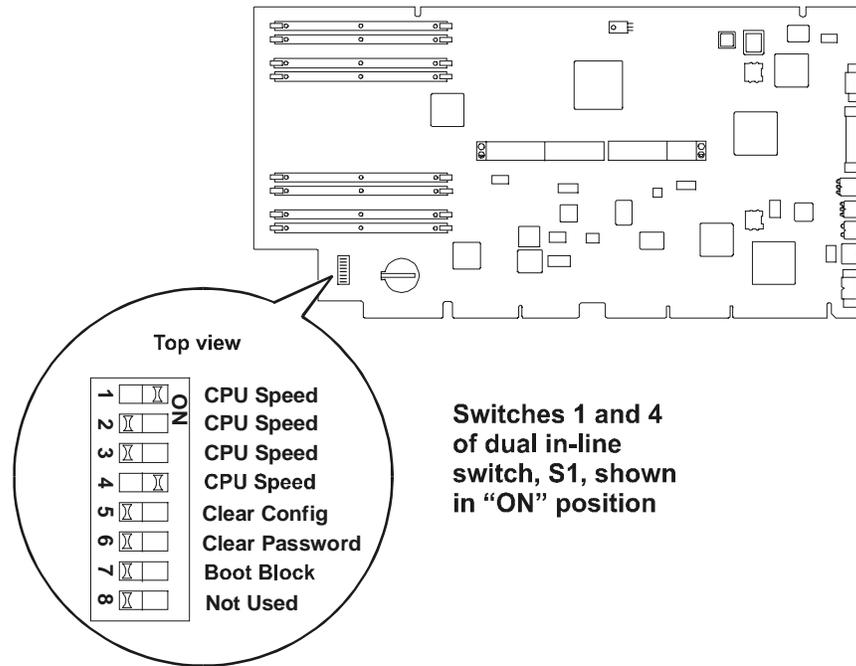

Figure 10-2. System Board Configuration Switch
2. On the system board, set switch 5 of the configuration switch from OFF to ON (see Figure 10-2).